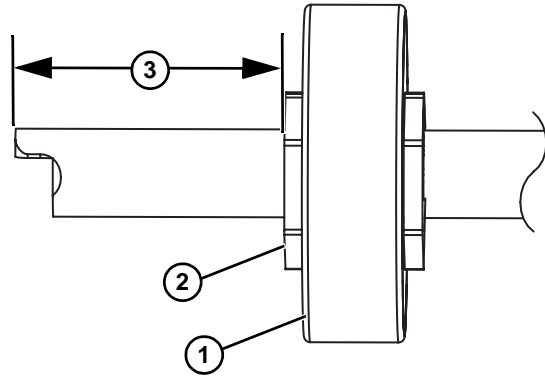

Figure 85
When assembling pucks (Figure 85, item 1) with retainer plates (Figure 85, item 2), make certain that there a minimum of 38 mm (1.5") of clearance (Figure 85, item 3) on each end.